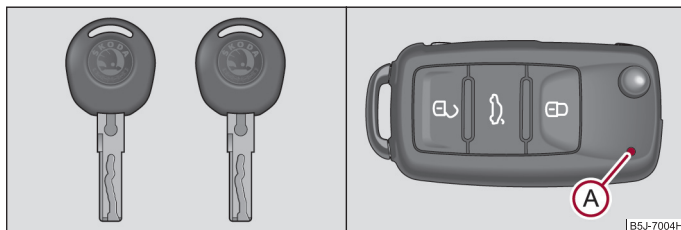
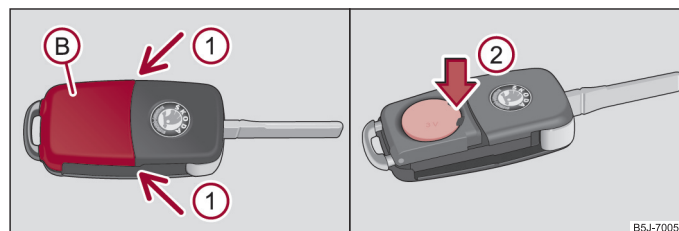

Fig. 23 Set of keys without remote control / set of keys with remote control key
Fig. 24 Remote control key - remove cover / remove battery
Two keys are provided with the vehicle. Depending on the equipment, your vehicle can be equipped with keys without radio remote control ⇒ fig. 23 - left, or with radio remote control* ⇒ fig. 23 - right.
Each remote control key contains a battery which is housed under the cover (B) ⇒ fig. 24. If the battery is discharged, the red indicator light (A) does not light up after pressing a button on the remote control ⇒ fig. 23. Change the battery as follows:
- Carefully press off the cover at the points of the arrows ①.
- Remove the discharged battery from the key by pressing the battery downwards at the point of the arrow ② ⇒ fig. 24.